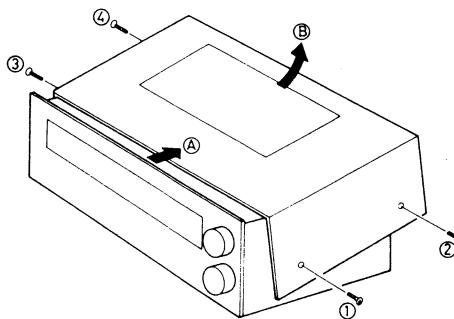

Fig. 7
2. Remove the four cabinet mounting screws (nos ①~④ screws in fig. 7).
3. Sliding it toward Ⓐ direction and lifting it upward Ⓑ direction as shown in fig. 7.